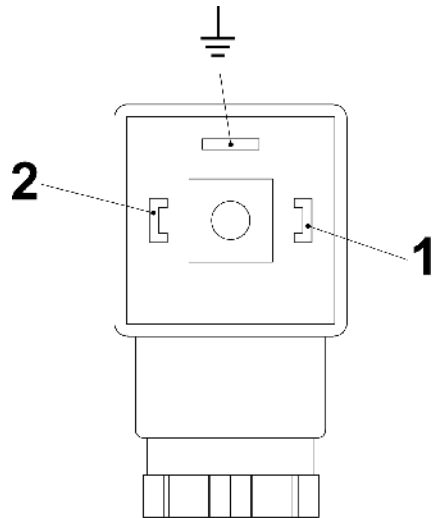
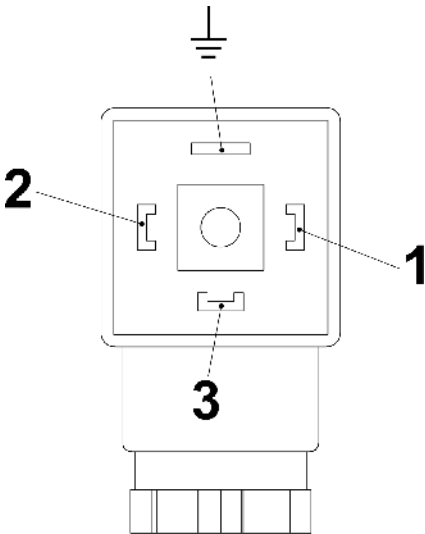

Fig. 24: Pin assignment, plug socket, Normally Open Contact (Form 30x70)
Fig. 25: Pin assignment, plug socket, Change-over contact (Form 30x70)
6. ➤ Make the connections as shown in the connecting diagram (Fig. 24 and Fig. 25)